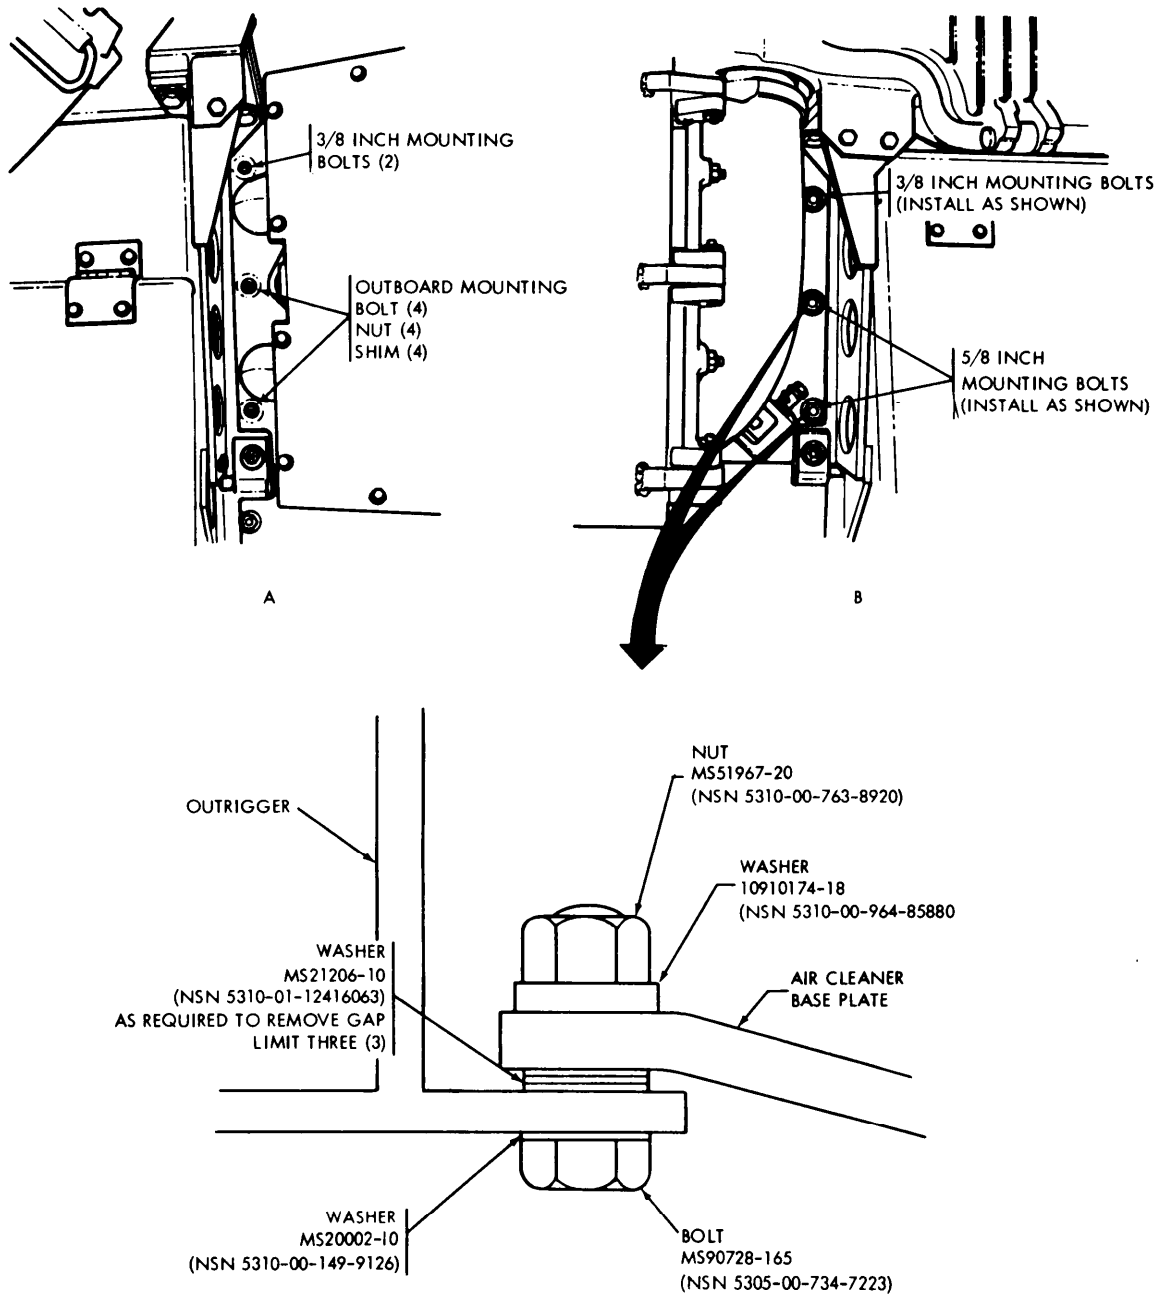

Figure 4-10. Armored air cleaner mounting bolt replacement.
*b. Replacement Procedures (Fig. 4-10).*